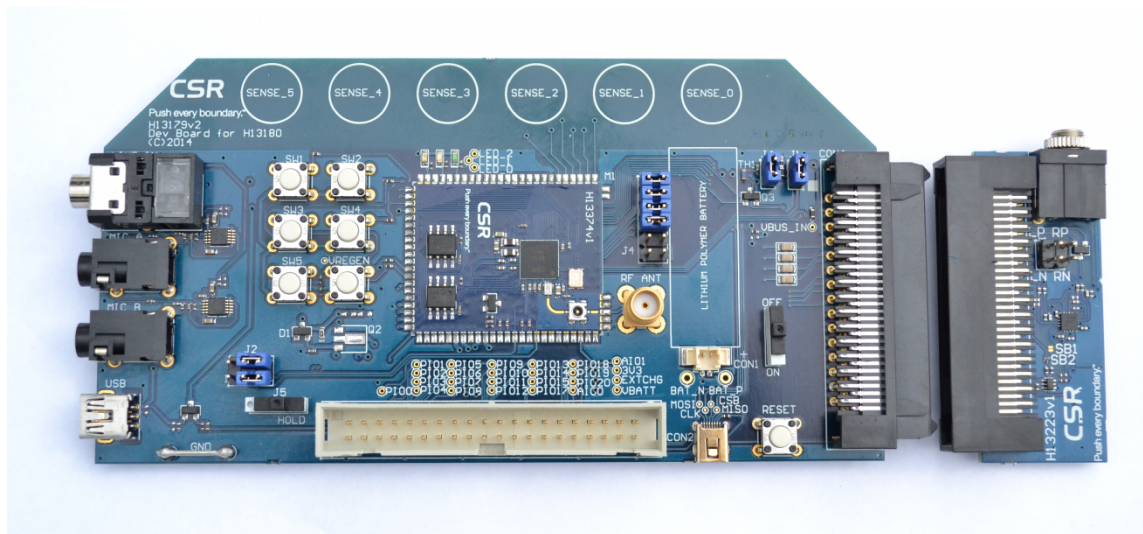

Figure 2-1 Connecting H13223 headphone amplifier board to the H13179/H13374 (CSR8675) board
1. Connect the H13223 headphone amplifier to the H13179 board, as shown in Figure 2-1. Also connect an aerial and 3.7 V battery.